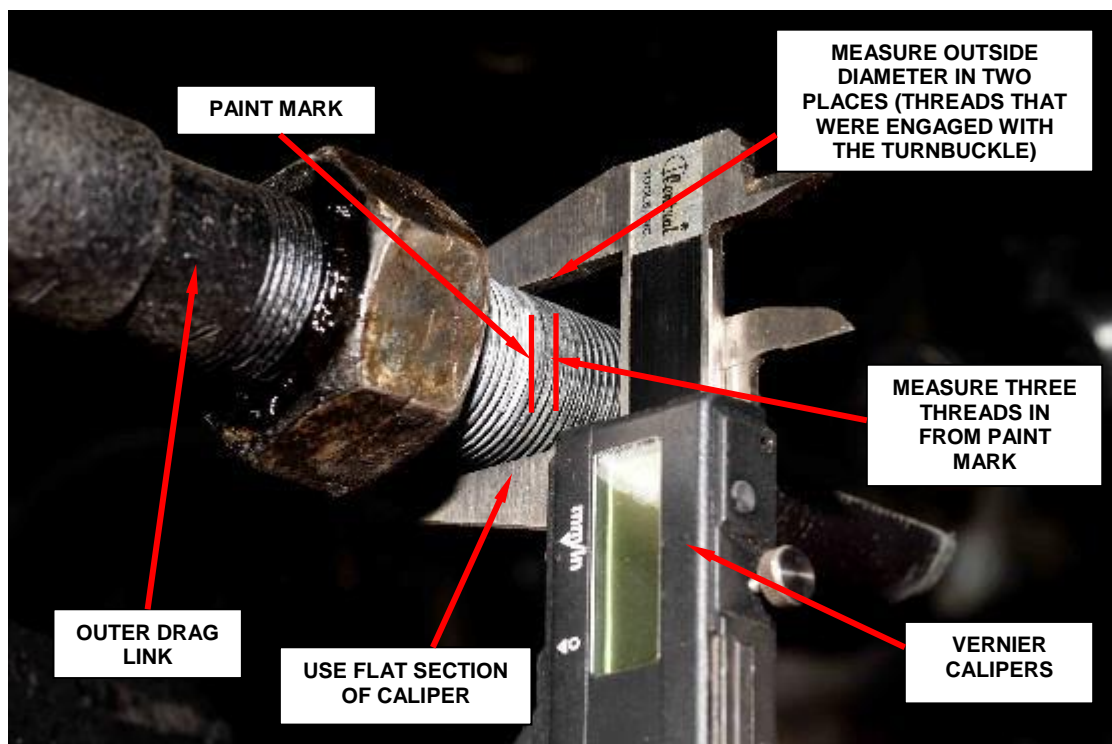

Figure 6 - Measure Outside Diameter of Outer Drag Link
5. Using Vernier Calipers, measure and record the major outside diameter of the outer drag link threads 5mm (0.20 in. - approx 3 threads) from paint mark denoting end of turnbuckle (Figure 6). **Be sure to measure using the flats on the calipers, do not measure inside the thread pitch (Figure 6).**